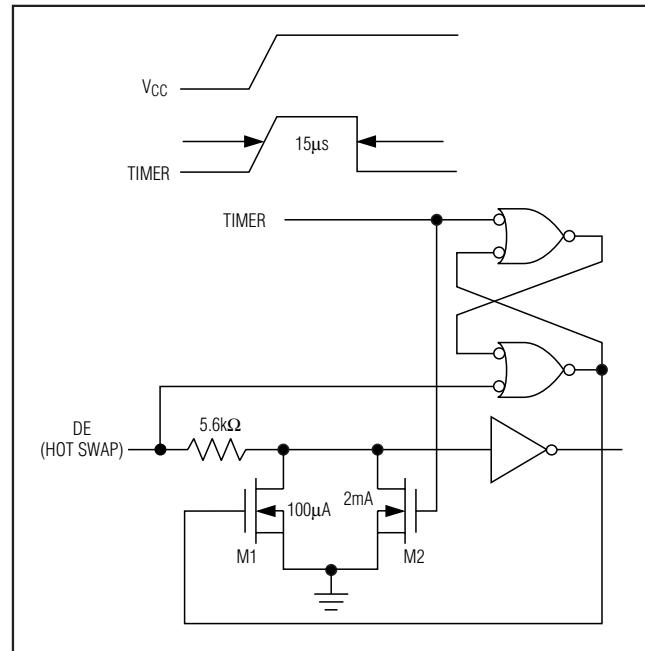

Figure 10. Simplified Structure of the Driver Enable Pin (DE)
At the driver-enable input (DE), there are two NMOS devices, M1 and M2 (Figure 10). When V_{CC} ramps from zero, an internal 15μs timer turns on M2 and sets the SR latch, which also turns on M1. Transistors M2, a 2mA current sink, and M1, a 100μA current sink, pull DE to GND through a 5.6kΩ resistor. M2 pulls DE to the disabled state against an external parasitic capacitance up to 100pF that may drive DE high. After 15μs, the timer deactivates M2 while M1 remains on, holding DE low against three-state leakage currents that may drive DE high. M1 remains on until an external current source overcomes the required input current. At this time, the SR latch resets M1 and turns off. When M1 turns off, DE reverts to a standard, high-impedance CMOS input. Whenever V_{CC} drops below 1V, the input is reset.